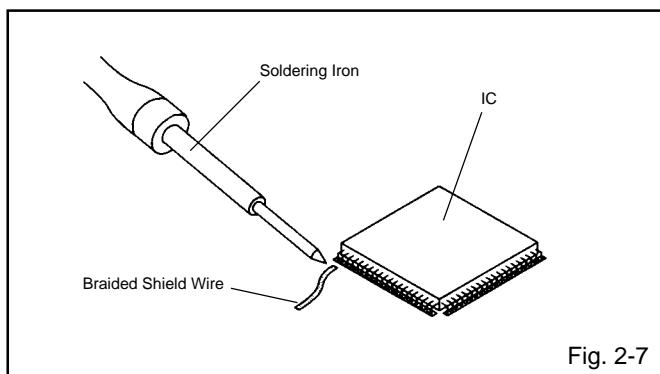

Fig. 2-7
3. Absorb the solder left on the lead using the Braided Shield Wire. **(Refer to Fig. 2-7.)**